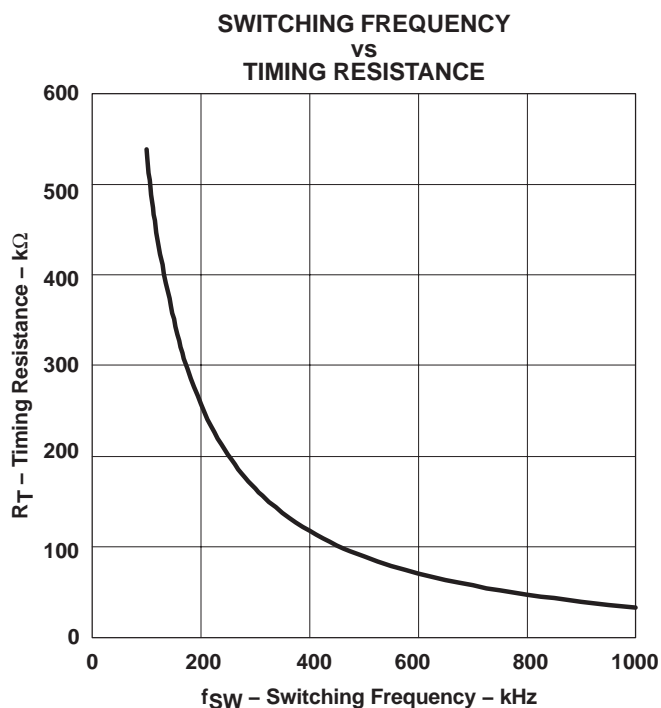

Figure 2
The TPS4005x has independent clock oscillator and ramp generator circuits. The clock oscillator serves as the master clock to the ramp generator circuit. The switching frequency, f_{SW} in kHz, of the clock oscillator is set by a single resistor (R_T) to ground. The clock frequency is related to R_T, in k Ω by equation (1) and the relationship is charted in Figure 2.